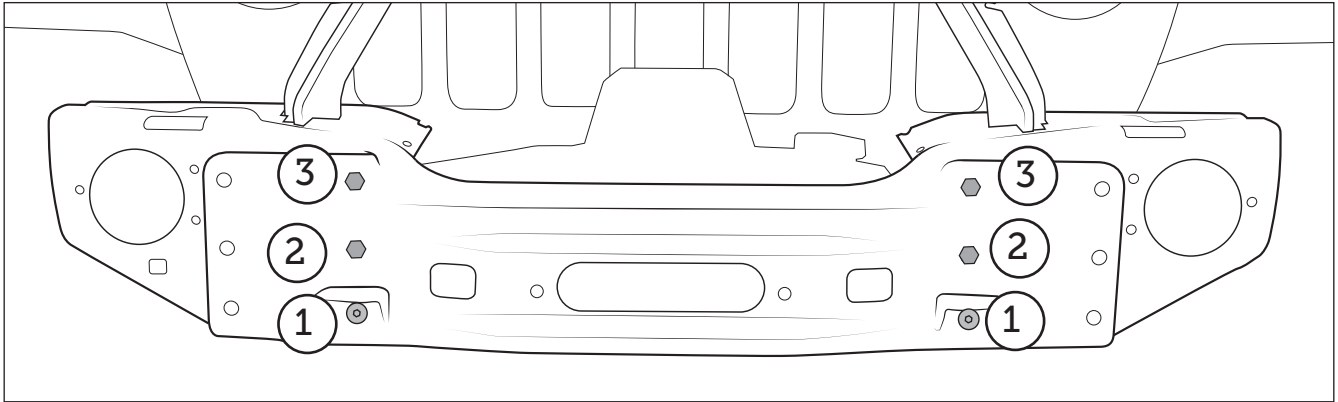

Figure 16
2. Install mounting hardware for main weldment (fig. 16). Depending on the winch used (such as Warn Zeon), access to the nuts on bolts 1 and 2 is very limited. They may need to be fed from behind the winch with a socket/extension.